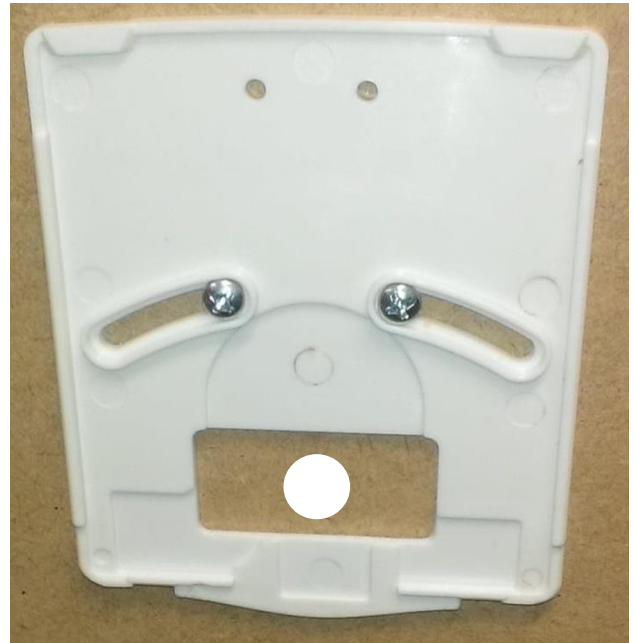

Figure 8-Screw the rear cover to the wall and feed cable through
- Drill a 15mm hole into the wall as shown in Figure 8